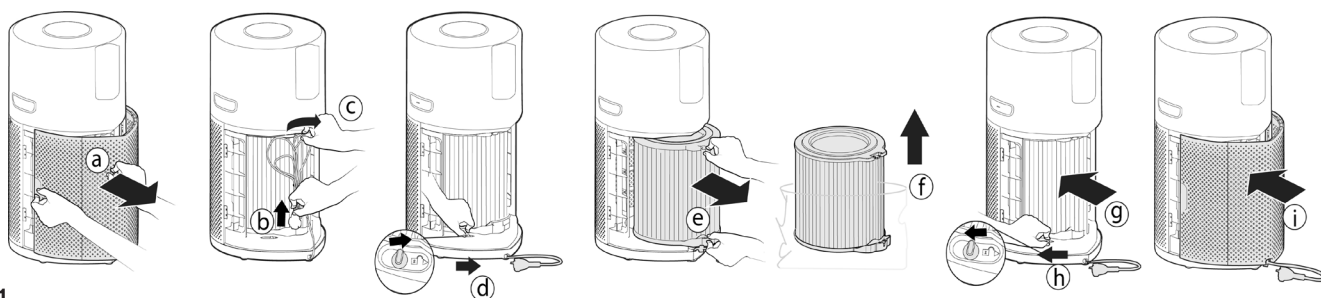

Fig. 1
2.1 INSTALAR O FILTRO [Fig. 1]